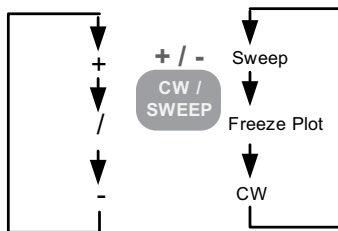

Figure 2-20
**CW / SWEEP** key, Figure 2-20 is a cyclic action key. Successive presses will cycle the VIA Echo through **Sweep**, **Freeze Plot** and **Continuous Wave (CW)** modes. If the Echo is in a numeric entry operation, this key toggles the numbers between positive and negative (+ or -) if negative entries are valid. If the Echo is editing a line of text (User Notes or Data Save) this key toggles between the three characters indicated (+ / -).